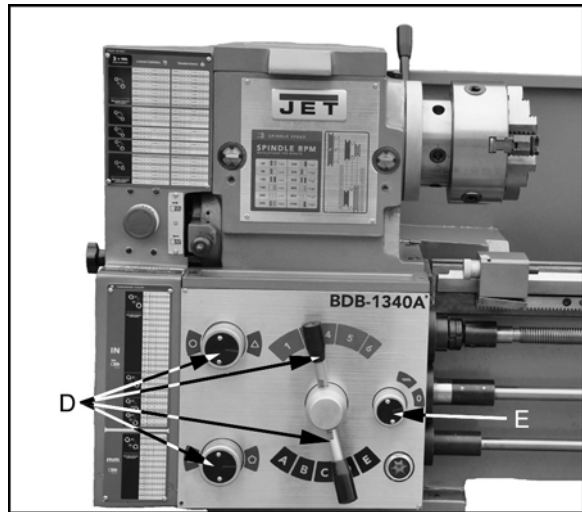

Figure 23
1. Set feed rate selectors (D, Fig. 23) in proper position for the correct feed rate of the thread to be cut.
2. Move knob (E, Fig. 23) to the "0" position to disengage the feed rod.